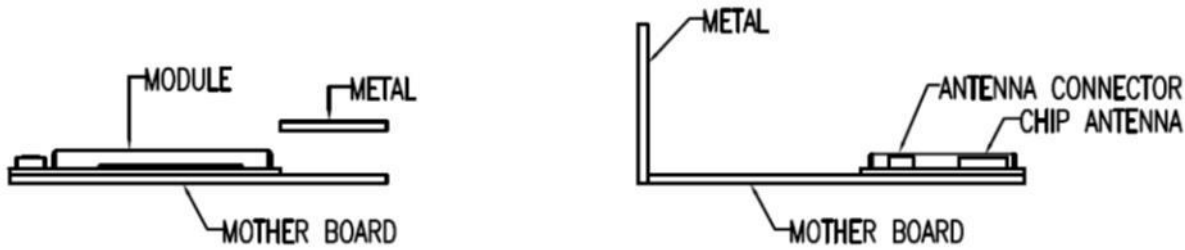
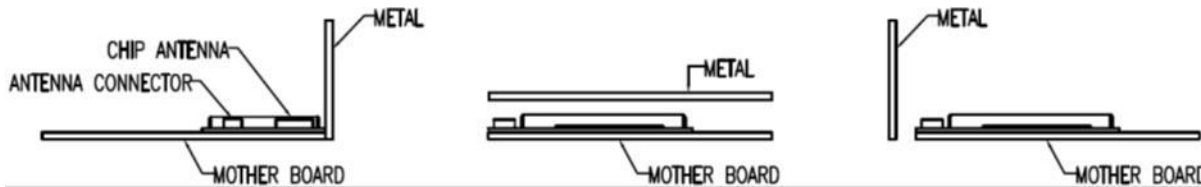

Figure 5: Recommended BT730-SA placement on host PCB and proximity to metal cover
Figure 6: Not recommended BT730-SA placement on host PCB and proximity to metal cover
- Figure 5 and Figure 6 show the recommended and not recommended locations for metal with respect to a BT730-SA module on-board antenna.